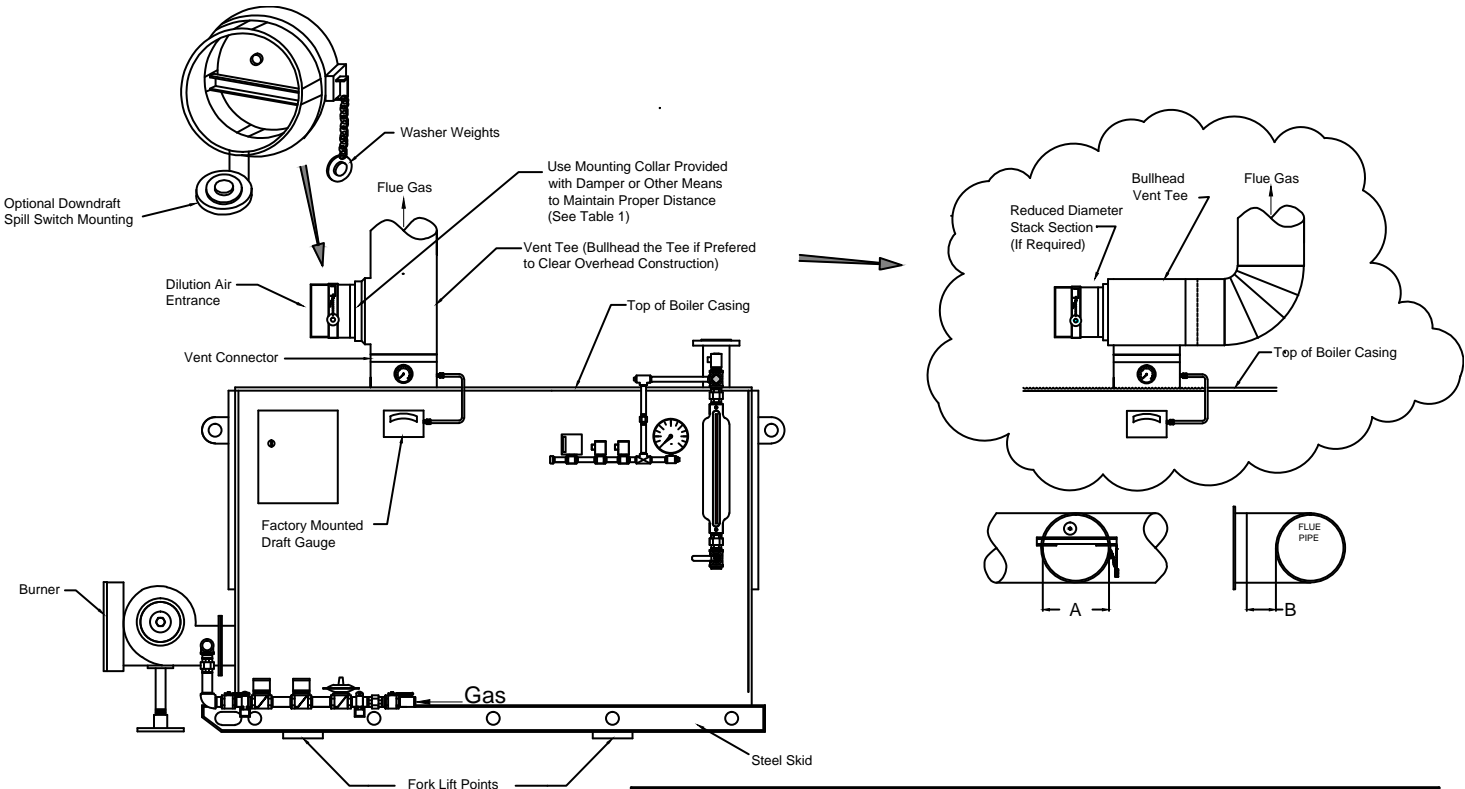

Figure 4
2. **CAUTION** The Barometric Damper must be properly installed and adjusted at the jobsite. It should be located as close to the vent connector as practical with the proper offset (See Figure 4).
1. Natural gas or propane fired boilers are U.L. listed for use with Type B gas vent provided a barometric damper is installed as shown in Figure 4. Check local codes for exceptions. Type B is double wall stack, widely available from a number of different manufactures. It is relatively inexpensive, easy to install and available in 3" through 30" diameters. Type B vent is suitable for Category 1 appliances only - combustion equipment defined as having net stack temperatures less than 400° F., operating with negative draft to the stack termination and producing non-condensing flue gasses.
1. **CAUTION** Most burners require support under the housing to reduce the cantilever effect. Screw a support pipe into the coupling underneath the burner and into the floor plate flange. Adjust or shim until burner is supported. See **Figures 4 and 5**.
5. **CAUTION** **Electrolysis** due to poor electrical grounding and/or stray voltages passing through the boiler to ground has been known to cause severe pressure vessel damage. The problem usually goes unnoticed until a tube leak occurs and the cause turns out to be a small crater on the inside of the tube - often underneath a small and otherwise insignificant looking mud deposit. While this problem is relatively rare, it should be checked for by a skilled electrician **before** the boiler is put into service in the following manner: Using a digital multimeter with sharp probes, check for the presence of millivoltage (AC) between any bare metal spot on the pressure vessel and the building ground. A reading of 2 millivolts or less is good and no corrective action is required. If over 2 millivolts, either find the cause and correct it or install a separate ground rod dedicated to the boiler. Annual testing will show if the ground rod needs to be turned in order to break off deposits that can insulate and inhibit its grounding effectiveness.